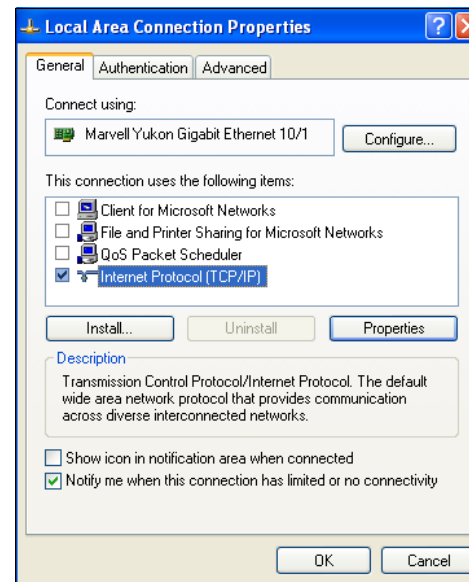

Figure 7: Local Area Connection Properties Window
- 5.) As shown in **Figure 7**, in the Connection Items list box, be sure the **Internet Protocol (TCP/IP)** is checked. *Select the Internet Protocol (TCP/IP) item to highlight it and then click <Properties>*. The *Internet Protocol Properties Window* will appear.